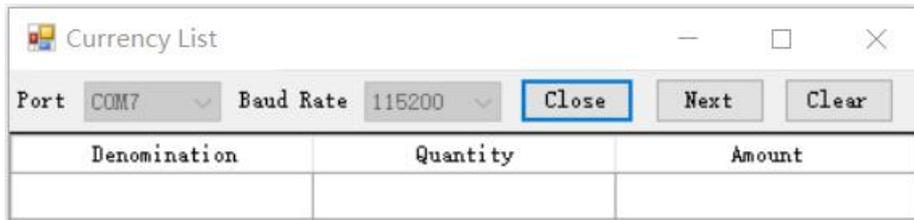

Figure 76
4) Click the "Open" button, then "Open" becomes "Close", and the Port and Baud Rate options become unmodifiable gray, indicating that the software has been successfully connected to the machine. As shown in Figure 76 below.